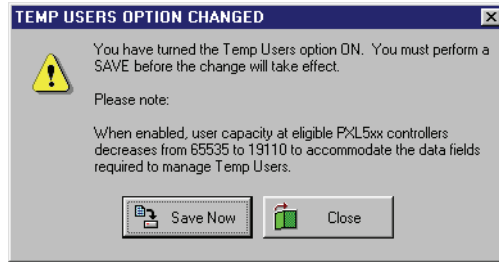

Figure 13-2: Temp Users Option Changed Window – ON
3. Click on the **Temp Users ON** box. A check mark appears in the box. Because the changes required to implement the temp users feature make major changes to the *Doors* program and its supporting databases, a confirmation window appears (see Figure 13-2 on page 4 of this section).